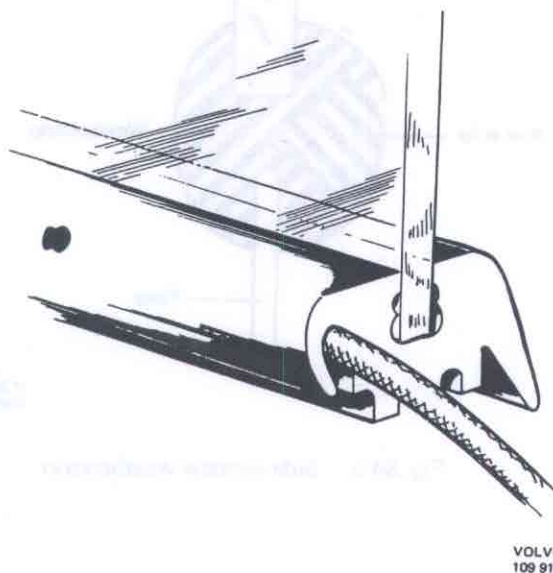

Fig. 84-3. Installing the cord
5. Place the glass in the rubber seal. Place a cord (suitably of terylene) in the seal groove for the plate edge, see Fig. 84-3.